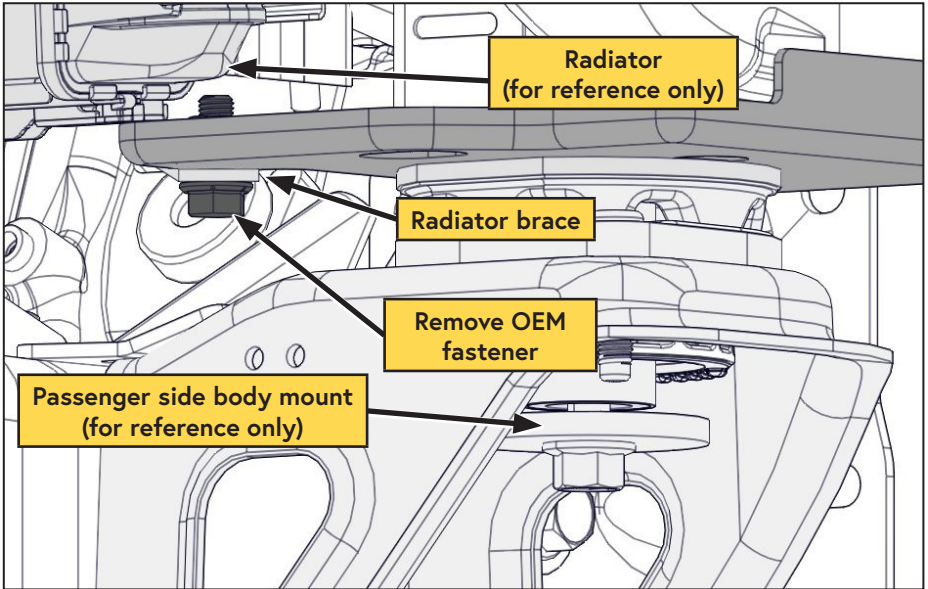

Figure 38 — Remove OEM fastener
- ☐ Remove the OEM fastener securing the radiator brace and set it aside (Figure 38).